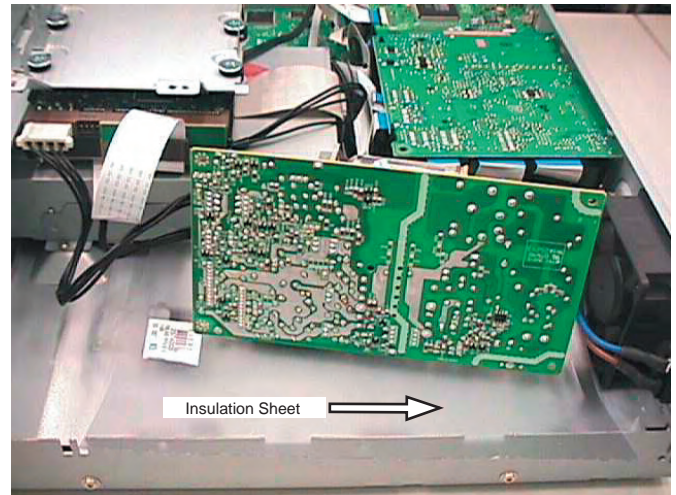

Figure 4-8: PSU Board Service Position
- 4) Service position for PSU Board is given in Figure 4-8.